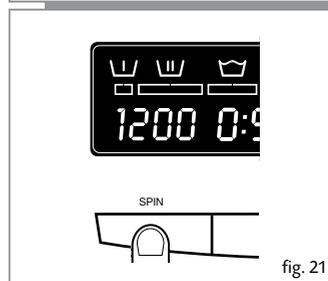

fig. 21
- The spin speed will gradually reduce each time the spin button is pressed at 100 r.p.m. intervals to a minimum of 400 r.p.m (Figure 21).